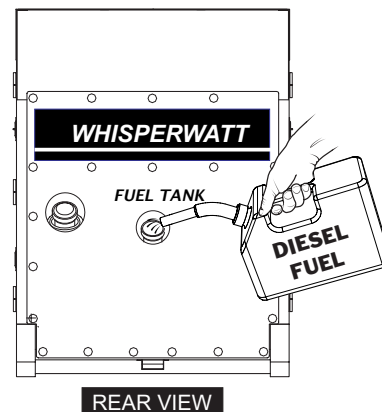

Figure 38. Fueling The Generator
2. Locate the **fuel filler port** at the rear of the generator. Remove the fuel cap and fill the tank as shown in Figure 38. Reinstall the fuel cap when done filling.